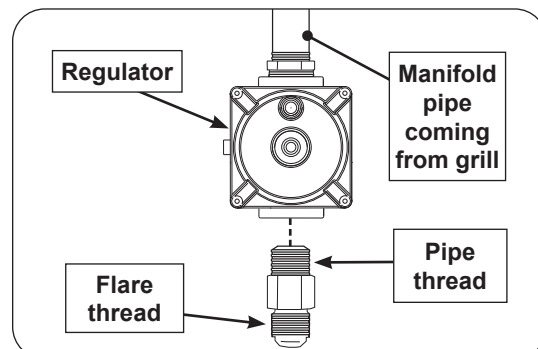

Fig. 3-2 Install adapter to regulator
2. Attach the **pipe thread** end of the 1/2" pipe to 1/2" flare adapter (see Fig. 3-2) to the regulator inside of the grill cabinet. Use pipe joint compound that is resistant to all gasses on the **pipe thread fitting** and tighten securely.